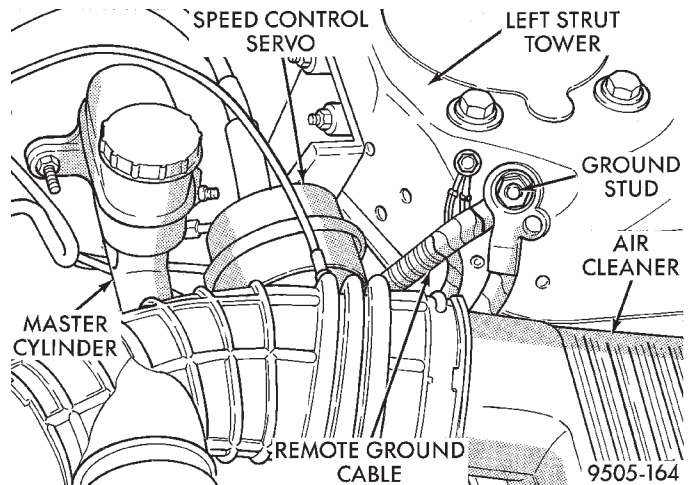

Fig. 88 Ground Cable Attachment At Strut Tower
- (1) Remove the remote ground cable from the ground stud located on the left strut tower (Fig. 88).